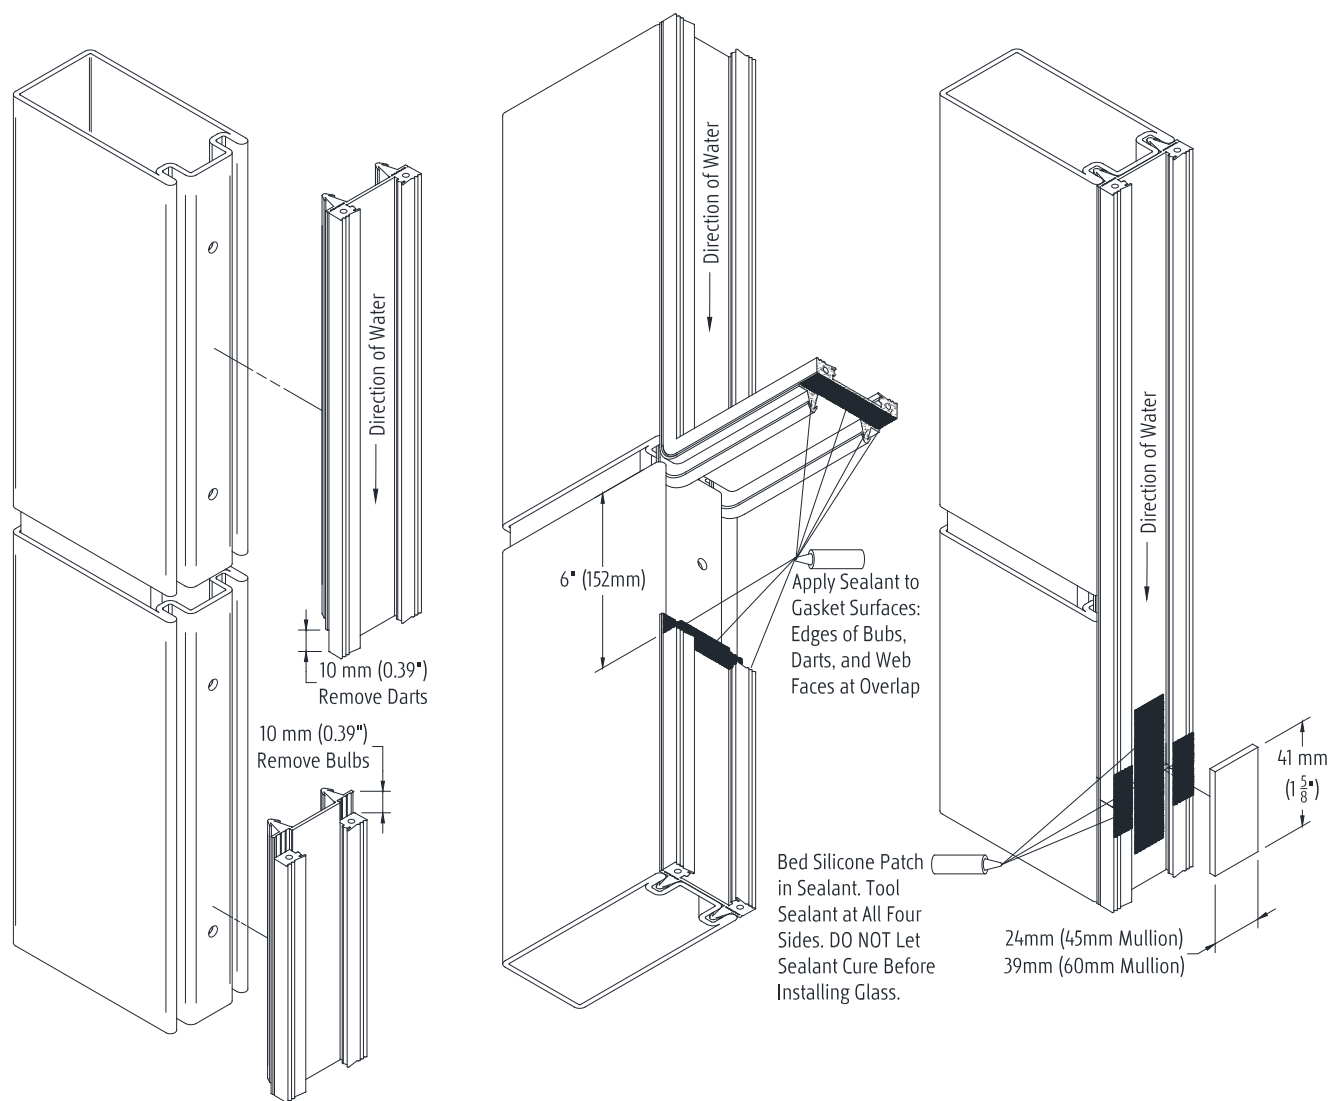

Figure 21 - Vertical Mullion Gasket Splice Sealant Detail
- 12.5 Seal at least 1" from edge of flashing membrane (Figures 21 and 31).